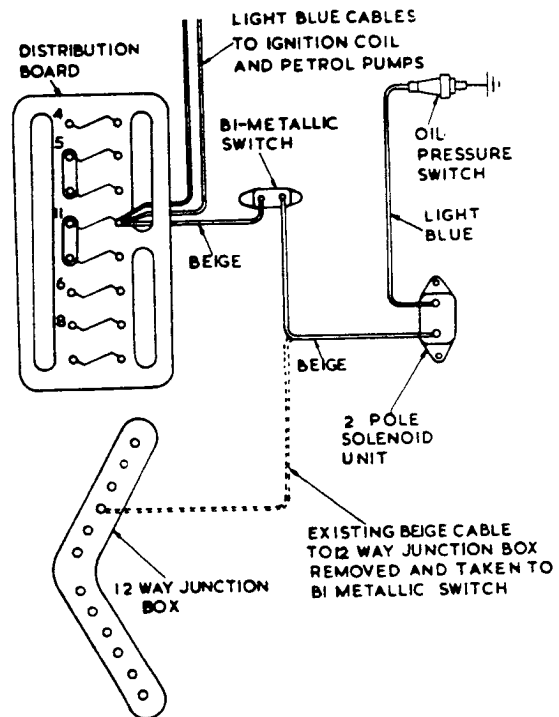

FIG. 5.
- (viii) Remove the existing beige feed wire to the solenoid from the triangular shaped 12 way junction box on the dash. The wire leaves the junction box and passes down the dash in the main loom under the conduit, leaving the main loom at the valve to lead to the solenoid switch. Pull the wire down to the top of the conduit and arrange it to pass out through the slot in the conduit elbow to the left hand connection on the bi-metal switch. Cut the cable to length. Run a cable from the distribution board out through the slot in the elbow to the right hand terminal (Fig.5.) Cover exposed cable with P.V.C. sleeve. Refix the conduit elbow to the dash and connect the cables to the switch with 2.B.A. cable eyes and rubber elbow sleeves. (It will be noted